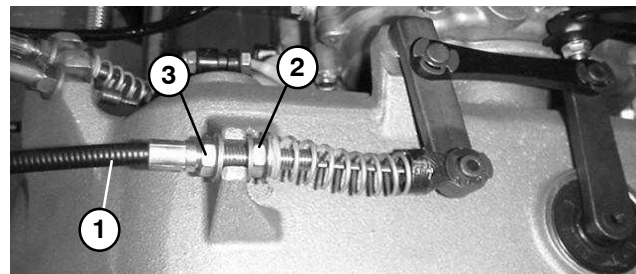

Figure 4
4. To increase reel control cable tension, loosen front cable jam nut and tighten back cable jam nut (Fig. 4) until the proper adjustment is achieved.